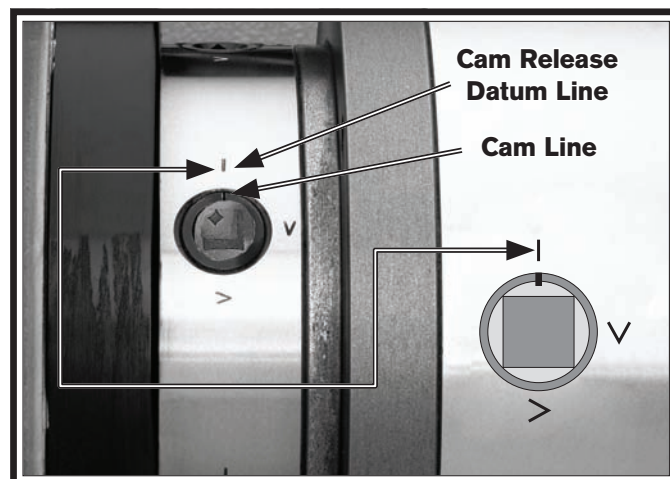

Figure 40. Camlock loosened with the cam line aligned with the datum line.
The chucks and faceplate have a D-6 camlock mount. A chuck key is used to turn the locking cams (**Figure 40**) to secure/release the chuck/faceplate.
3. One at a time, use the chuck key to turn each of the camlocks counterclockwise until the cam line aligns with the cam release datum line, as shown in **Figure 40**. As you turn the camlocks, they will rise up slightly from the spindle body.